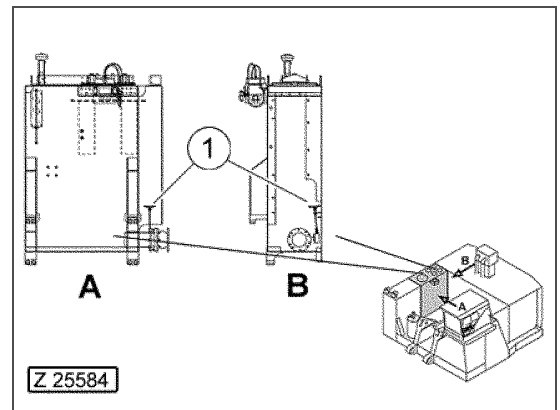

Fig. 3-46
- Close the hand wheel (Fig. 3-46, Pos. 1) of main gate valve between suction oil reservoir and main oil reservoir.